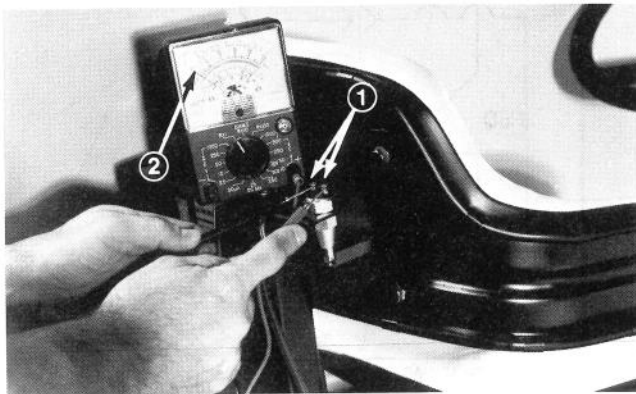

Figure 114
2. Connect a meter lead to each switch terminal and check switch with no load on the seat (Fig. 114). Switch should not indicate continuity.